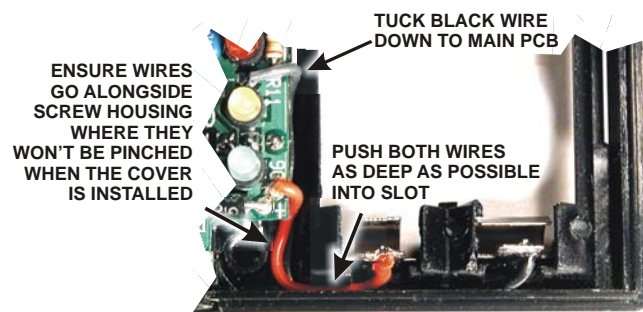

Figure 18. Routing Battery Wires.
Route the black wire leading from the control board between the red and yellow LEDs and around to the wide battery terminal as shown in Figure 18. Tuck the wire down against the main PCB where it crosses to the side, then push it down into the slot between the end of the battery compartment and the side of the bottom cover. The ridge along the edge of the bottom cover fits into a slot in top cover, so the wires must leave a space clear for the top to fit down over the ridge.
- Fit the enclosure top cover on the assembly oriented so the LED's and push-buttons fit through the pre-drilled holes. Squeeze the corners of the covers together and inspect each side for any sign that something is hitting the top. The covers should fit together snug and firm on all four sides with no tendency to move or rock when you release pressure on the corners. If anything is hitting the top, fix it before proceeding. The most likely causes are that the control board is not fully mated to the main board, the battery wires are trapped between the screw housings (Figure 18) or that you haven't removed all the excess plastic from the top cover and it is striking the control board (see Figure 17).